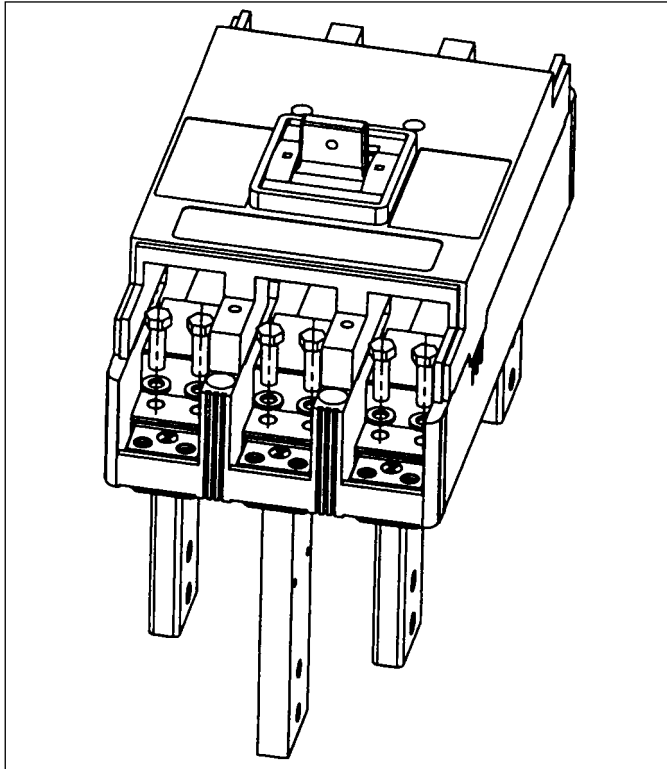

Figure 2-3 1600 Amp Rear Connector Installation (Connectors, Barriers and Hardware Included)
All 1600 Amp N-Frames require Rear Connectors or Front Connectors as shown in figures 2-3 and 2-3a.
- Install the rear connectors to the line and load side of the circuit breaker (Figure 2-3). Do not fully torque the bolts until after the barriers are positioned correctly. On three pole breakers the longer connectors are on the center phase. On four pole breakers, short and long connectors should alternate on adjacent phases.